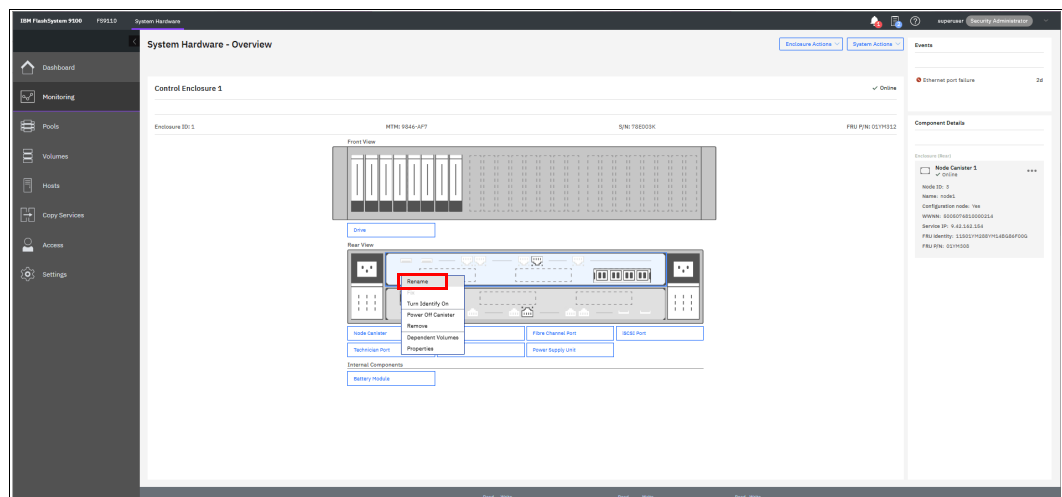

Figure 4-128 Overview window
1. Go to the **System Hardware** window and right-click the node that you want to rename, as shown in Figure 4-128. Click **Rename**.